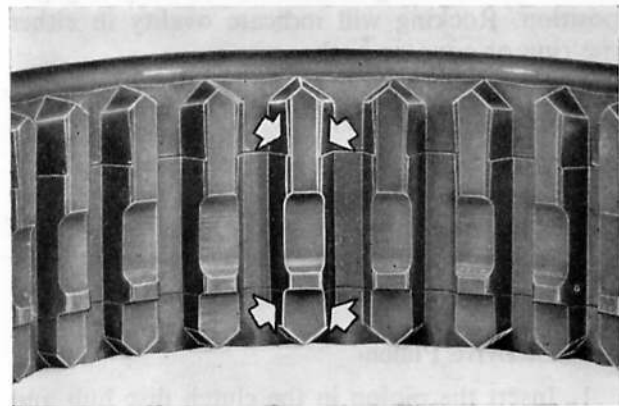

Fig. G.21. Section of the top speed clutch showing the 'keystone' on the internal splines at each end, indicated by arrows
1. A 'keystone' contour is incorporated at each end of the clutch splines (Fig. G.21) of both clutches on four-speed transmissions and also on the second and third speed clutch on three-speed transmissions. This engages with a similar contour formed in the engagement teeth of the corresponding gear on the mainshaft.